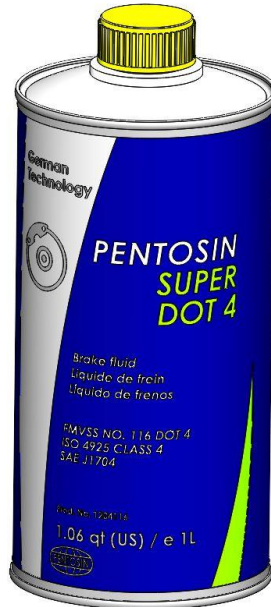

Figure 6 – Pentosin Super DOT 4
10. If the master cylinder has been removed or replaced, make sure it is properly bench bled and then installed on the vehicle. Then the remaining brake system can be bled to remove all of the air from the system. **REMEMBER:** Master Power Brakes requires the use of either DOT 3 or DOT 4 brake fluid. We Recommend the use of Pentosin Super Dot 4 fluid as seen below Figure 6 (**Available at Master Power Brakes P/N: ACJ1703**).